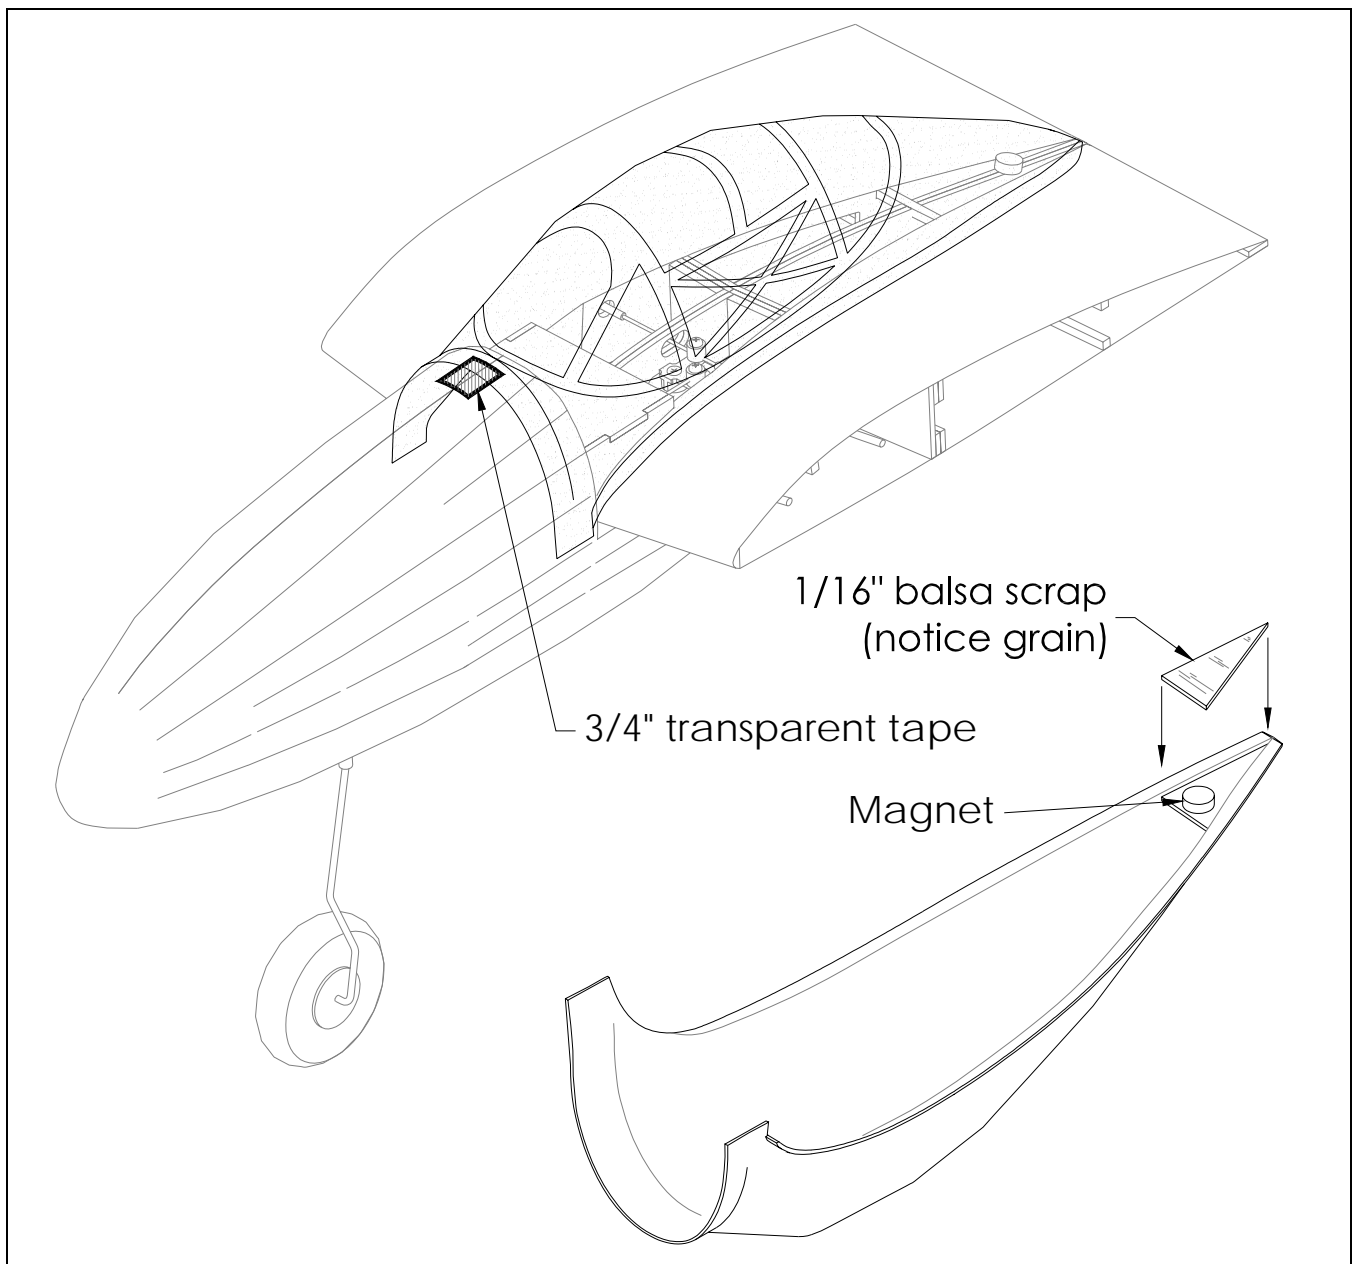

Figure 38
- ❑ From a piece of 1/16" balsa scrap and magnet, fabricate the remaining half of the canopy latch as illustrated in Figure 38. Make sure the magnet is oriented so that it is attracted to the magnet installed in the fuselage. Adjust the 1/16" balsa scrap and magnet in the canopy to a depth that creates a nice tight fit between the canopy and the wing. Glue these to the canopy with 5-minute epoxy.
- ❑ Install a small piece of 3/4" tape on the front of the canopy as illustrated in Figure 38. This piece of tape acts as a hinge allowing you to open the canopy to replace batteries.